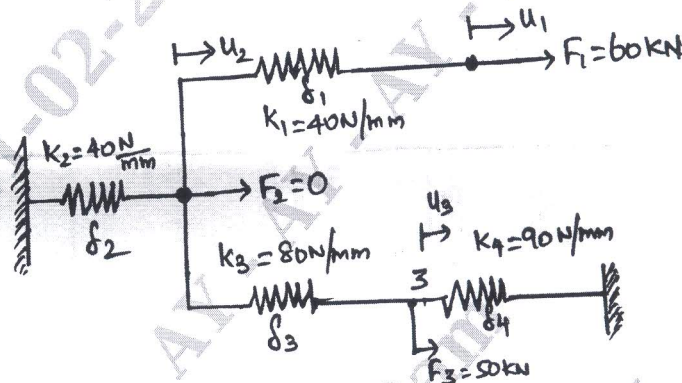

Fig Q1(b)
- b. For the spring shown in Fig Q1(b) determine the nodal displacement using principle of minimum potential energy.